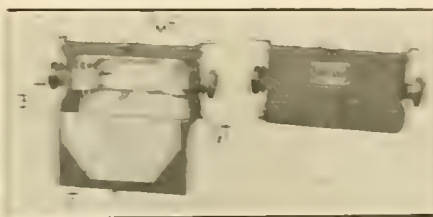

FIG. 2
A.—With this arrangement the trolley used in the trolley-box can be of much lower capacity than that of the current taken by the locomotive, and drawn through one trolley-box when that particular set of trolleys has the only set of trolleys in contact with the third rail. For instance, assume that the maximum current taken by the locomotive is 1,000 amperes. Under the condition of one set of trolleys only touching the third rail, the capacity of the trolley would have to be of excess of 1,000 amperes and of sufficient capacity to handle the current for the period of time which the locomotive might require to start up a heavy train and until the second set of trolleys in the same side zones in contact with the third rail. By connecting in the trolley-boxes on the opposite side of the locomotive from the set of trolleys in contact with the rail, the current drawn by the locomotive is divided among the trolley-boxes and so that half of these have a parallel handling the current, then 500 amperes would be the amount going through each trolley and therefore a trolley set of 500 amperes capacity could be used instead of one or two 1,000 amperes. When both sets of trolleys are in the third rail, in case of the right-acting condition of 1,000 amperes capacity, 500 amperes would have to be taken by the locomotive before the trolleys would draw and the protection afforded by the trolley-boxes is not drawn materially due to the capacity of the trolleys. No larger trolley than is necessary should be used, so that in case of trouble the trolleys will draw immediately, thus removing current from the locomotive and preventing excess damage. Fig. 2 shows an arrangement of this kind. The four sets of third rail shoes are shown as No. 1, No. 2, No. 3 and No. 4, these being located at the ends of the locomotive. The trolley-boxes are shown as A, B, C, D, E, F, G, H, I, J, K, L, M, N, O, P, Q, R, S, T, U, V, W, X, Y, Z, and are connected up with the third rail shoes and with each other as shown by the cable connections in the diagram.